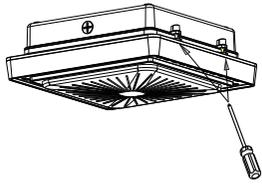

Figure 2-1
1. Disassemble the junction box cover by loosen the two screws on the junction box; Figure 2-1